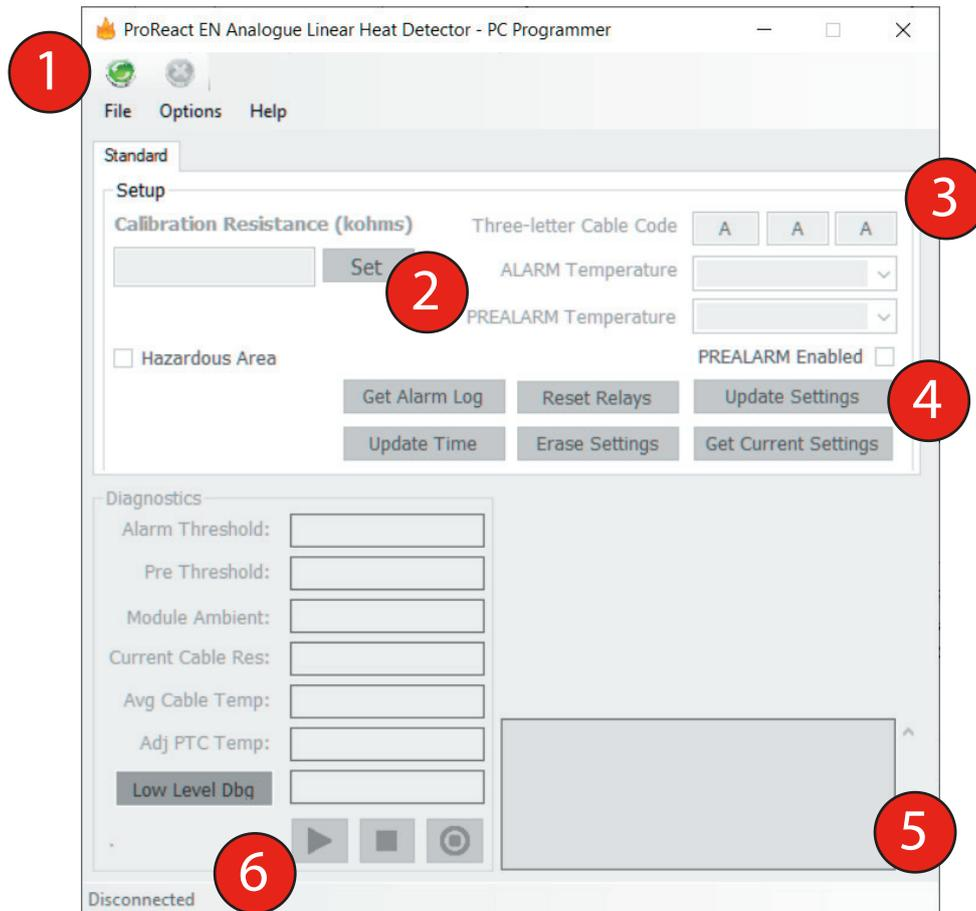

Figure 1. Screenshot of PC Programmer Software
8. After the installation is complete or a PACC unit has previously been connected to this computer, click the green connect icon on the toolbar, shown at 1 in the screenshot in Figure 1.
2. To retrieve the settings from the PACC unit. Press the "Get Current Settings" button shown at 4 in Figure 1. This will download the parameters from the PACC unit and populate the programmer software input controls accordingly.
4. The first parameter to be entered should be the calibration resistance. This may only be done when the button next to the calibration resistance input box shows "Set" (shown at 2 on Figure 1). If the button shows "Unset", the calibration resistance input box will be greyed out. In this case, click "Unset" first to enter a new calibration resistance.
7. Next enter the three letter code of the ProReact EN Analogue sensor cable attached to the PACC unit in the corresponding input boxes next to the "**Threeletter Cable Code**" label shown at 3 in Figure 1.
9. Once all the parameters have been set, press the "**Update Settings**" button, shown at 4 in Figure 1, to download the settings to the PACC unit.
- To check the diagnostic information from the ProReact EN Analogue Composite Control unit, click the green play button shown at 6 in Figure 1.